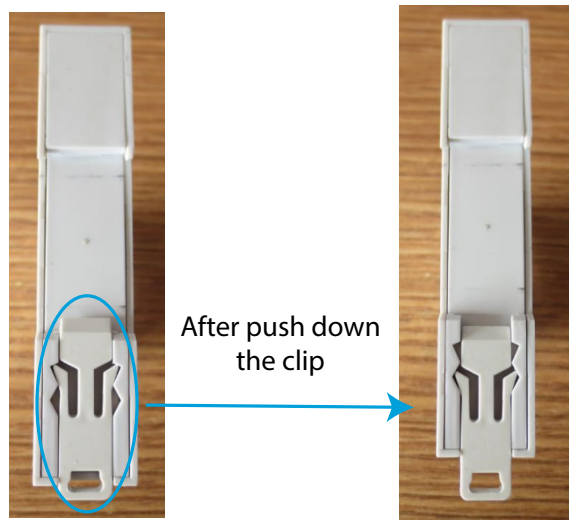

Figure 1: Push down the clip.
- 2.- Push down the clip under the bottom of the meter for a gear, see **Figure 1**.